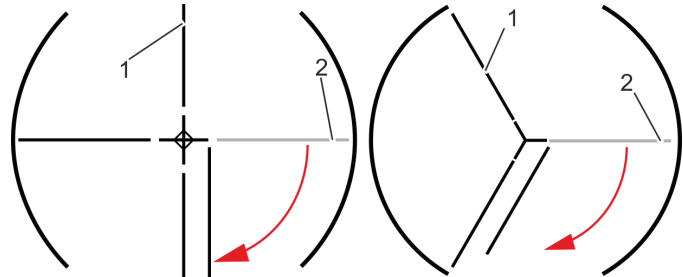

Fig. 48 Folding the wings to the side (four and three wings)
2. Carefully orient the wing manually (Fig. 48/1) as shown in (Fig. 48).
Have one person hold the wing at the entrance (Fig. 48/1).
4. 1. Push the wing (Fig. 48/2) in short bursts.
- » The wing folds to the side (Fig. 48/3).